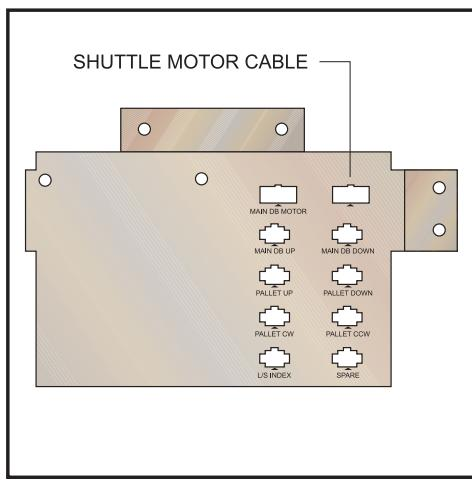

Figure 3.8-13
20. Disconnect the tool changer's shuttle motor cable connector, behind the rear access panel on the control box side of the machine. See Figure 3.8-13.